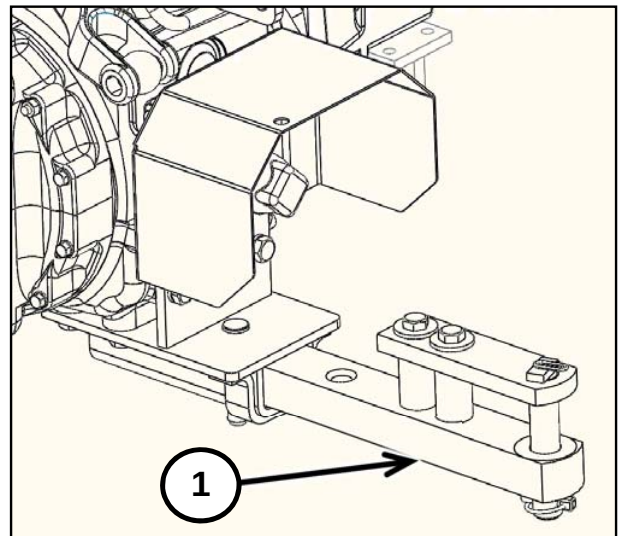

Figure 2-38
Your tractor is equipped with a extension / clevis type drawbar (1) in Figure 2-38, for towing equipment behind the tractor. This drawbar may be extended by sliding it rearwards, 145 mm and capable of 755daN vertical load and the following permissible towable mass depending on the trailed vehicle brake system.